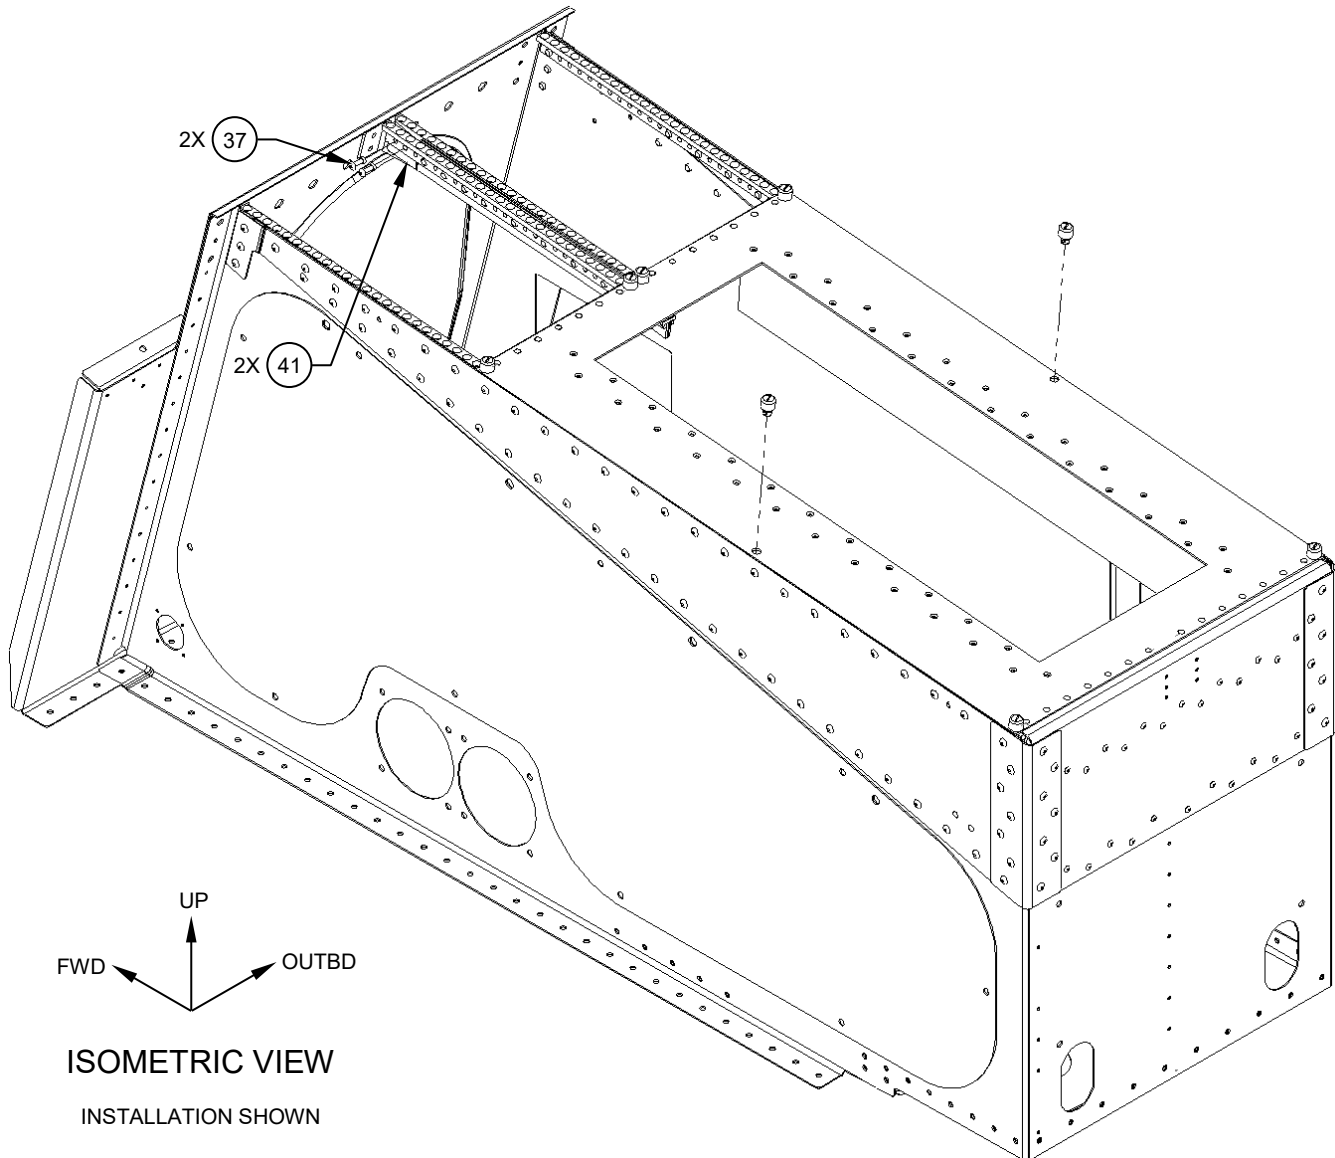

Figure 37
6.4.10. Permanently install the modified Panel Mount Plate, Assy, (Item 25), and the modified Center Dzus Rail, Assy, (Item 12) with the 2X Filler, Details, (Items 41), on to the Center Pedestal Riser, using 2x Rivet, Solid Universal Head, (Item 37). Install at least one more Fastener, Panel, Stud, ¼ Turn, (Item 46) on each side. See Figure 37.